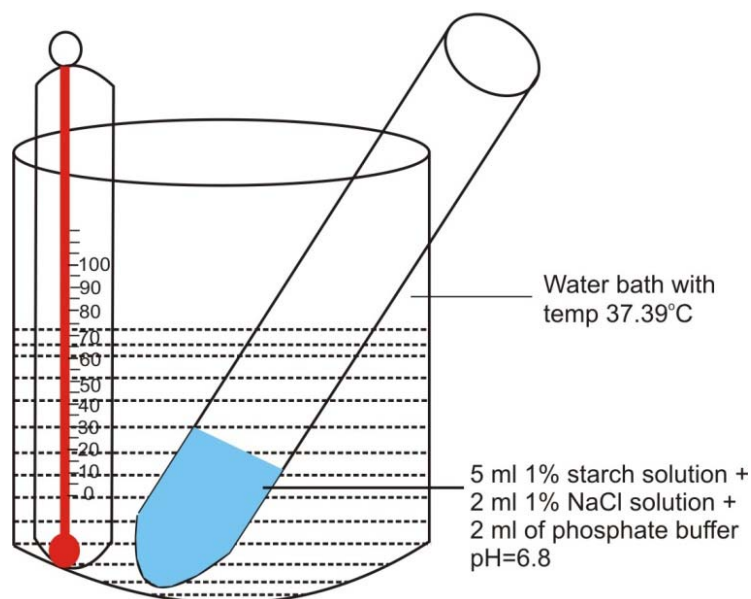

Fig.11.2: Experimental setup for starch digestion.
- iii) **Preparation of Digestive Mixture:** After adding the reagents as shown in Table 11.1, place the test tubes in a water bath and adjust the temperature to 37° C. When the contents of the tubes reached to 37°C, add 1 mL of dilute saliva (1:10) to the 'Test' tube and 1 mL of distilled water to the 'Control' tube (sample setup shown in Fig. 11.2).